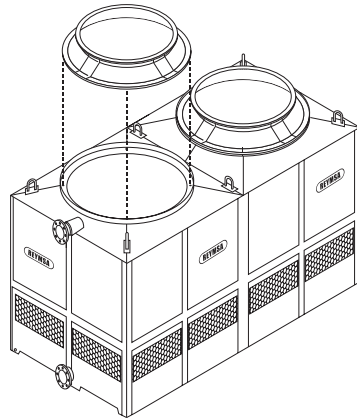

Figure A-38: Fan adaptor 2 installation
B. For the double fan, quadruple fan and modular towers, follow the same instructions described in previous step to install remaining fan adaptors (see Figure A-38 for an example). Each fan adaptor is labeled with a number on the inside of the upper edge; for a correct installation, this number must match the number on the corresponding receiving flange.